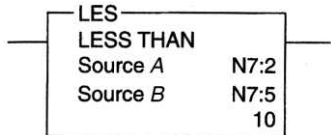

Figure 10-17 Instruction for question 29.
29. What value(s) stored in N7:2 of Figure 10-17 would make this instruction true? 29. _____